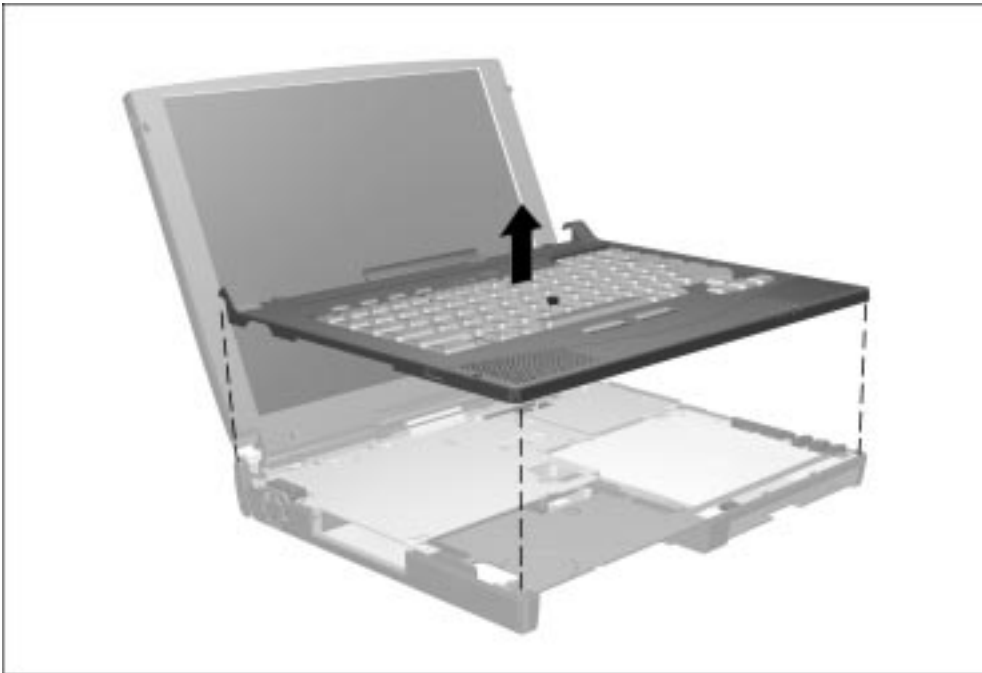

Figure 5-20. Removing the Keyboard/CPU Cover Assembly
7. Lift the keyboard/CPU cover assembly straight up and away from the computer (Figure 5-20).